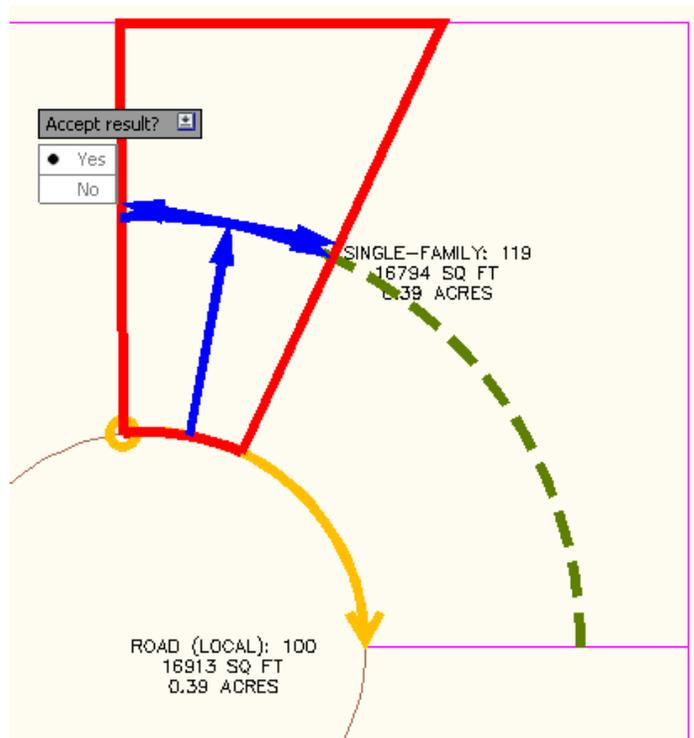

Figure 8: Preview of proposed solution and frontage offset line
- 9 Preview graphics display if the proposed solution is correct. The green dashed line represents the frontage offset as shown in figure 8. Accept the resulting solution or enter No to end the command so that you can adjust the sizing parameters.